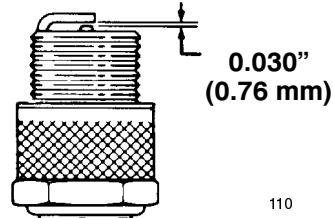

Figure 35
3. Set the air gap between the spark plug electrodes at 0.030 inch (0.76 mm) (Fig. 35).